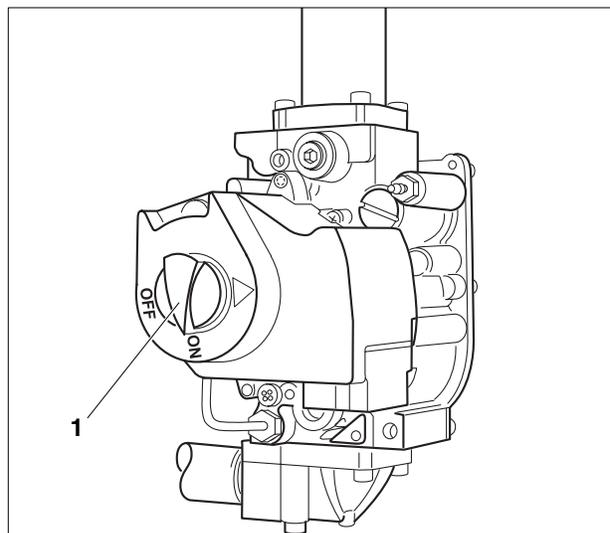

Fig. 31 Gas control valve
3. Turn the gas control knob (Fig. 31, **Item. 1**) counterclockwise to "OFF". Do not force.